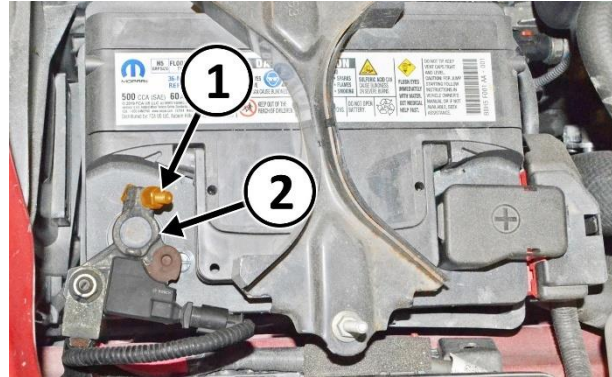

Figure 3 – Battery Negative Terminal
6. Loosen the nut (1) then disconnect and isolate the battery negative cable terminal (2) (Figure 3).